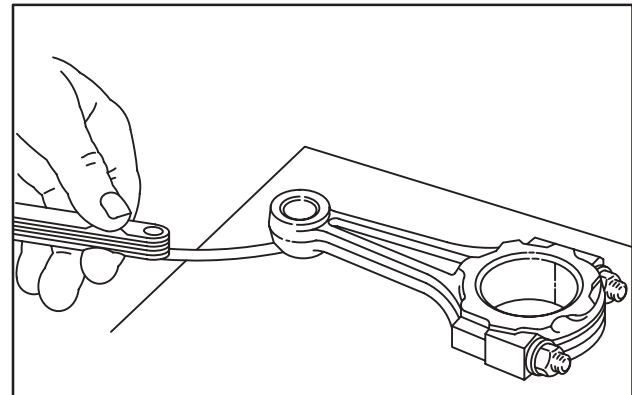

Fig. 9 – Checking Connecting Rod
4. Check for bent or twisted connecting rod, Fig. 9.